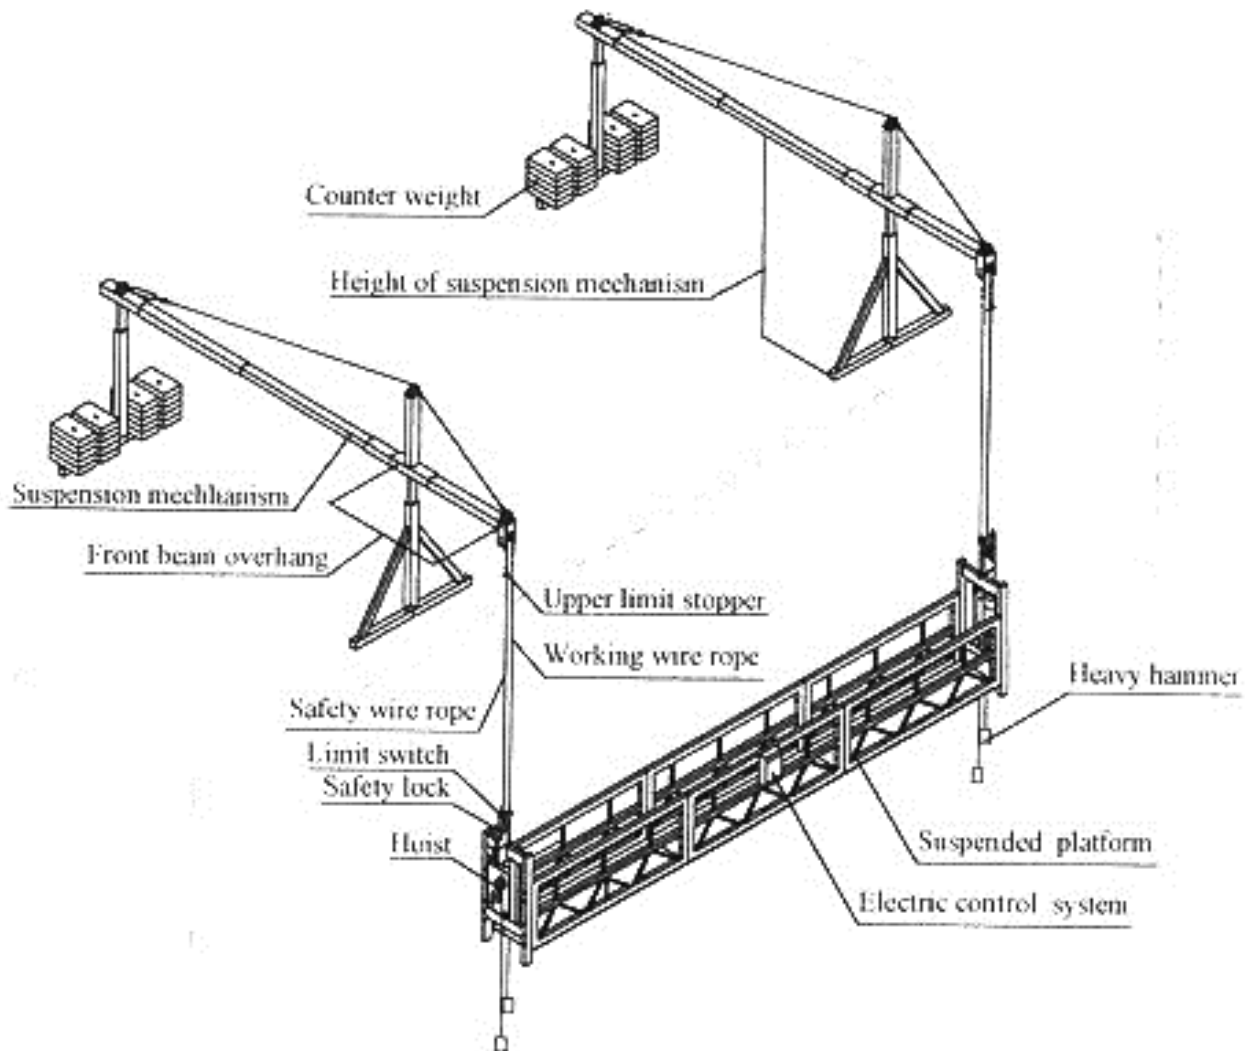
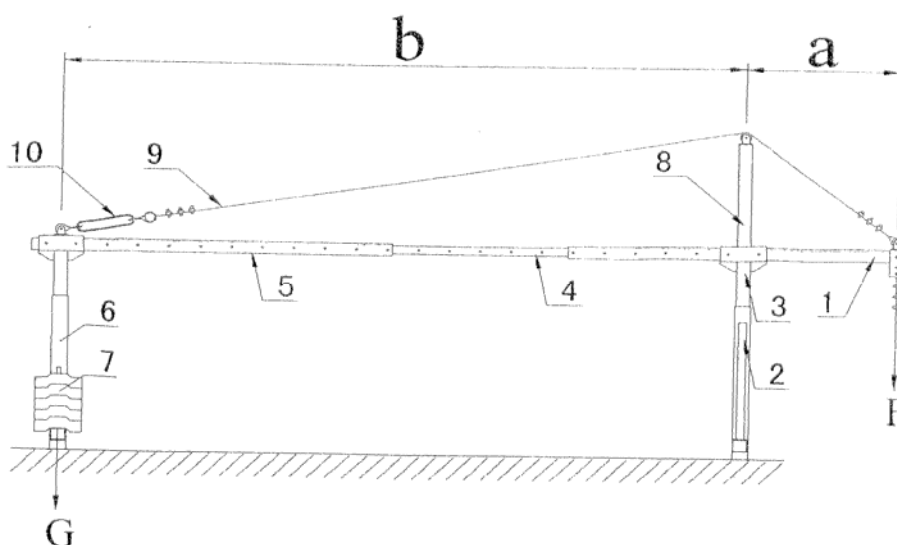

Figure 1: Temporarily Installed Suspended Access Equipment
Figure 2: Suspension Mechanism
ZLP series temporarily installed suspended access equipment consists of the components as below: hoists, safety locks, electric control system, suspended platform, suspension mechanism, counter weight, steel rope, etc (see figure 1 as below).
3.1.1 The suspension mechanism (see figure 2 as below) consists of front beam (1), middle beam (4), rear beam (5), front base (2), rear base (6), upper column (8), tommy bar (3), counter weight (7) and reinforce steel rope (9) etc. The tommy bar is mounted on the front and rear base; the front and rear beams will be fixed through the tommy bar, the middle beam is fixed between the front and rear beam. The upper column is mounted on the tommy bar for fixing the reinforced steel rope and counter weight will be placed on the rear base. For details of structure, see attached figure 1: suspension mechanism on page 23.